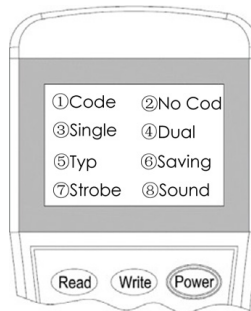

Fig.7 Parameter setting
2. Switch-on the programming tool, then press button “**3**” to set encoding mode. Select the desired encoding method and then click the button “**Write**” to save the configuration information, as shown in Figure 7.